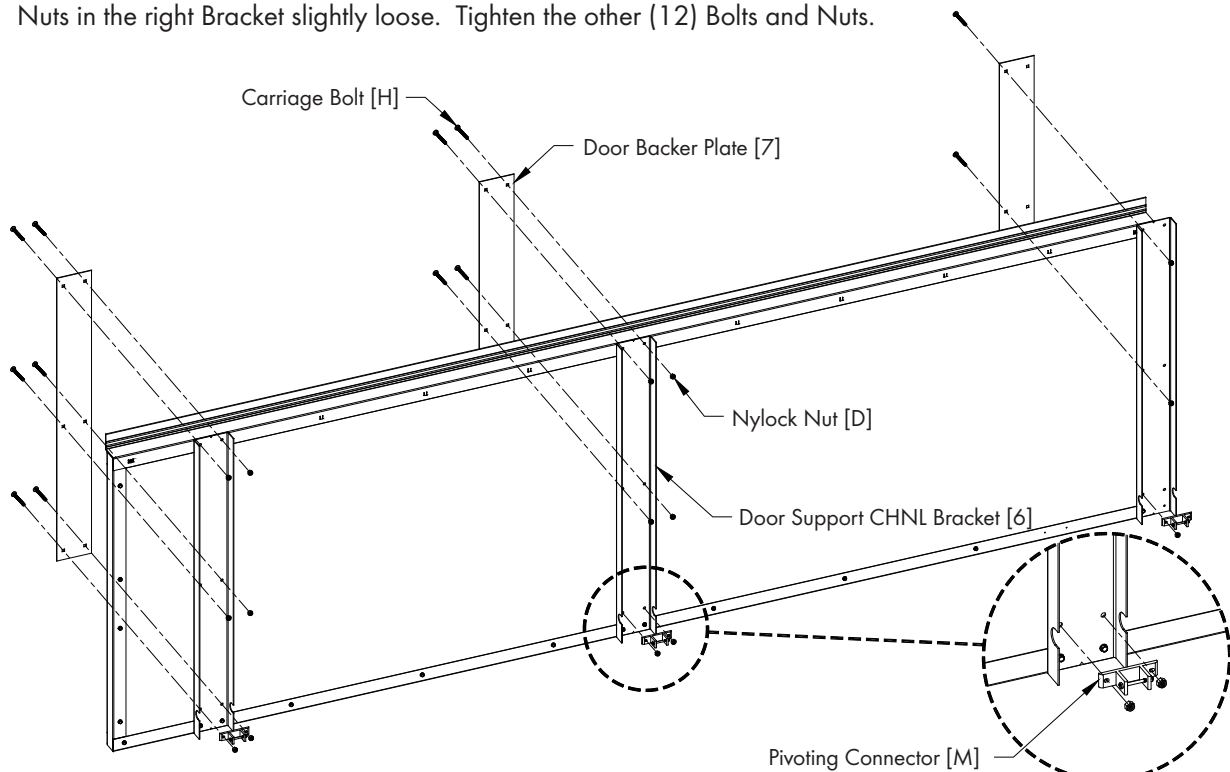

Figure 8
Locate Door Backer Plate [7] and fasten to back of Tunnel Door in line with Door Support CHNL Bracket [6] using (4) Carriage Bolts [H] and Nylock Nuts [D] in the upper (4) holes for the left and center Brackets. The right Bracket only gets (2) Bolts and Nuts. See Figure 8. Secure the Pivoting Connector [M] to the Bottom Pair of holes in Door Support CHNL Bracket using (2) Carriage Bolts [H] and Nylock Nuts [D]. The right Door only gets (1) Bolt and Nut to secure the Pivoting Connector [M]. See Figure 8. Leave the Bolts and Nuts in the right Bracket slightly loose. Tighten the other (12) Bolts and Nuts.